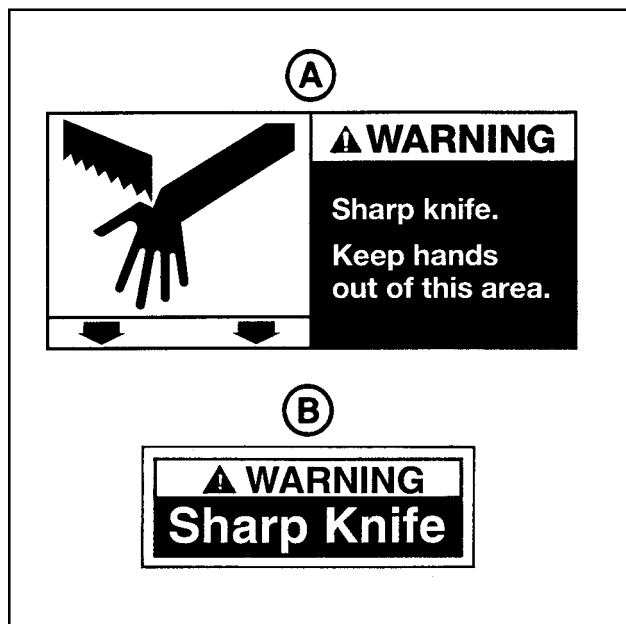

Figure 1-1 – Knife Warning Label
The "**Warning – Sharp Knife**" label (A), shown in **Figure 1-1**, is attached to both sides of the upper frame at the location of the cut-off knife on the upper taping head. The "**Warning – Sharp Knife**" label (B) shown in **Figure 1-1**, is attached to the orange cut-off knife guard on both taping heads. The labels warn operators and service personnel of the very sharp knife used to cut the tape at the end of the tape application.